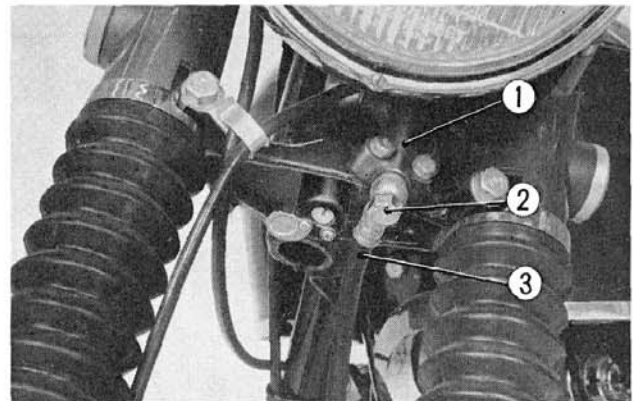

Fig. 14-3 ① Joint ② Oil bolt ③ Oil hose
2. Disconnect the front brake hose at the joint by removing the oil bolt. (Fig. 14-3)